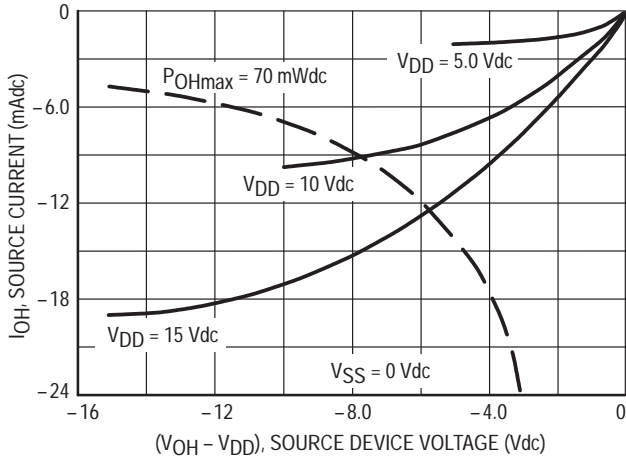

Figure 1. Typical Output Source Characteristics
* See Power Derating Curve Figure 1.